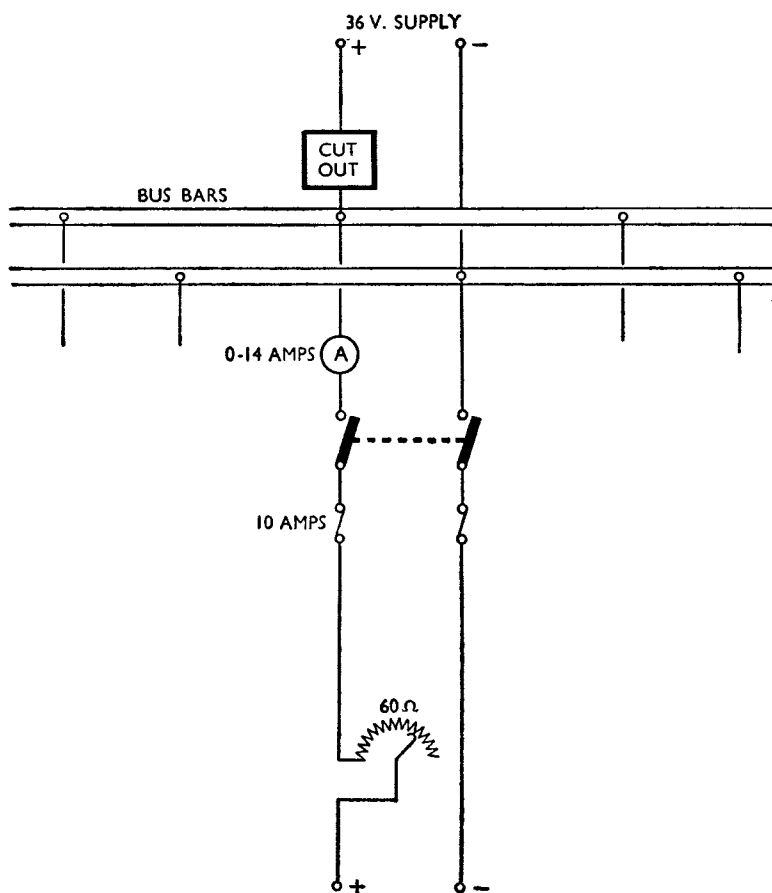

FIG. 19.—TYPE "B" CHARGING BOARD.
7. Fig. 19 shows the circuit diagram of the "Type B" charging board; it is a complete three-circuit charging board with protective devices, designed to operate on a 36-volt D.C. supply. A.C. mains can be employed in conjunction with a step-down transformer and rectifier.